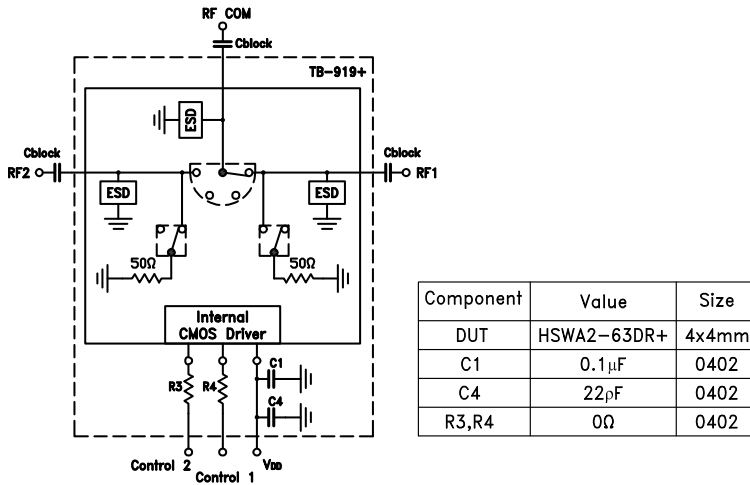

Figure 2. Block Diagram of test Circuit used for characterization (DUT soldered on Mini-Circuits' TB-919+)
1. Tested on Mini-Circuits' test board TB-919+, using Agilent's N5230A network analyzer (see Characterization test circuit, Fig.2).